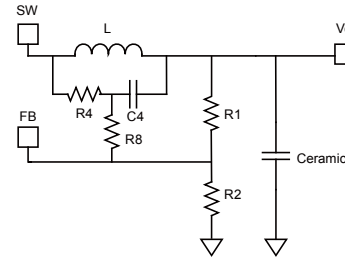

Figure 11: Simplified Circuit of Ceramic Capacitor
The output voltage is influenced by V_{RAMP} beside the R divider (see Figure 11). V_{RAMP} can be calculated with Equation (5) on page 14. R2 should be chosen carefully, as a small value for R2 will lead to considerable quiescent current loss while too large a value for R2 will make the FB noise sensitive. Use a comparatively larger R2 when Vo is low (e.g. 1.05V), and a smaller R2 when Vo is high. The value of R1 can then be calculated with Equation (14):